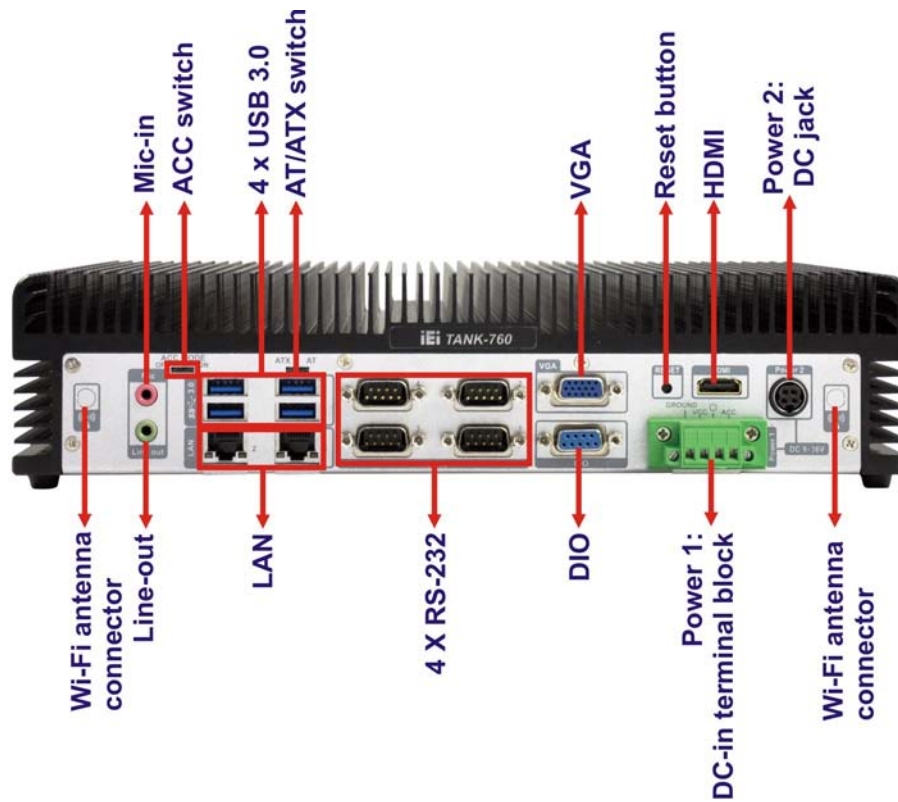

Figure 1-3: TANK-760 Rear Panel
An overview of the rear panel is shown in **Figure 1-3** below.
Step 1: Locate the DC-in terminal block connector. The location of the connector is shown in **Figure 1-3**.